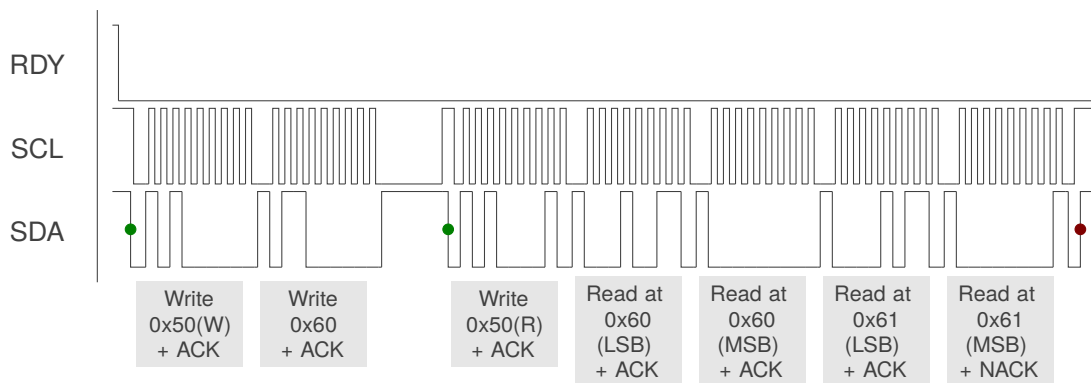

Figure 12.1: I2C Read Example — Read Status Registers 0x10 and 0x11
A typical read operation is displayed in Figure 12.1. The master device waits for the RDY line of the IQS7221G to go low, indicating the availability of new data and an available communication window. Once the RDY interrupt is triggered, the master initiates communication by sending a start condition followed by the device address and a write command. The IQS7221G responds with an acknowledgement, after which the master device will transmit one byte defining the register address. The master then sends a repeated start condition, followed by the device address with a read command. The IQS7221G transmits data from the requested address and will continue to do so while the master acknowledges each byte. The read operation is ended when the master does not acknowledge the last byte received and produces a stop condition.
- > Read the *System Settings 1* Register (0x60) as illustrated in Figure 12.1.
With the *Stop End Comms Disable* setting disabled in the *System Settings 2* register, a standard I2C STOP ends the current communication window. If multiple I2C transactions need to be done, then they should be strung together using repeated-start conditions instead of giving a STOP. Allowing an I2C STOP to terminate the communication window is the recommended method, as illustrated in Figures 12.1 and 12.2.